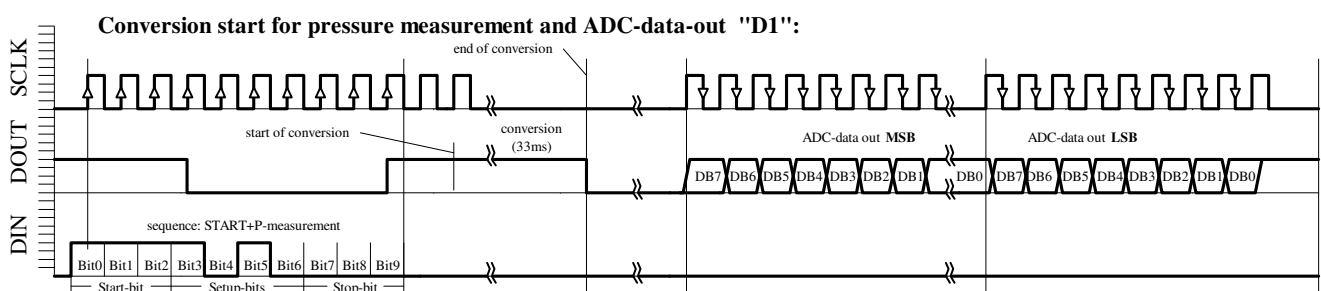

Fig. 6a: D1 acquisition sequence
- Conversion start for pressure measurement and ADC-data-out "D1" (Figure 6a)